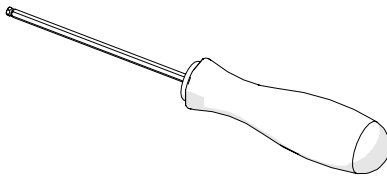
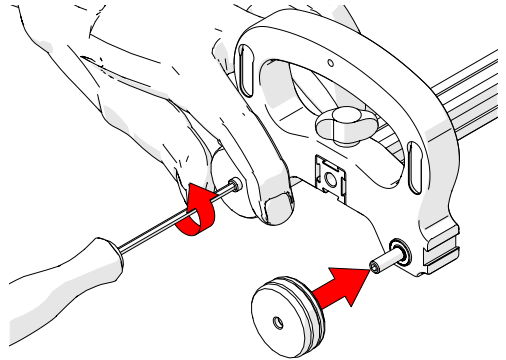

Fig. 19 - 3 mm hex driver
Fig. 30 - Wheel installation
The 3 mm hex driver (*Fig. 19*) is sufficient for all typical operations and adjustments of the **STIX**.
4. Tightly grip the magnetic wheel by hand and, using the supplied 3 mm hex driver (Fig. 19), tighten the magnetic wheel to the axle (Fig. 30).